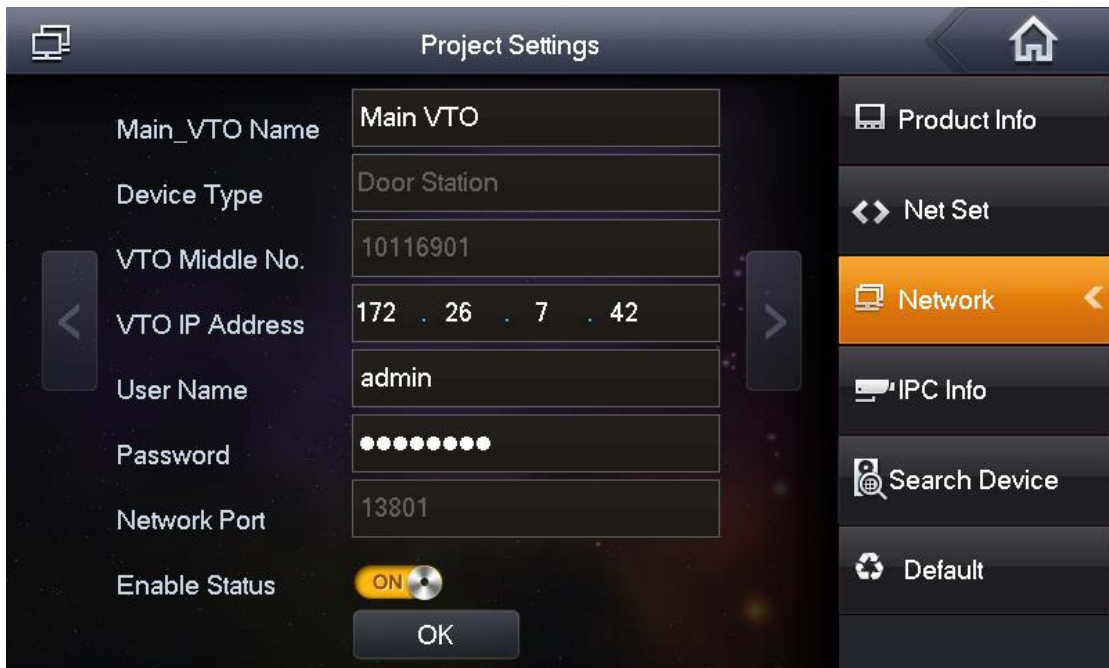

Figure 2-12
The system displays “Network” interface, as shown in Figure 2-12.
1. In Figure 2-12, enter main VTO name, IP address, “User Name” and “Password”.